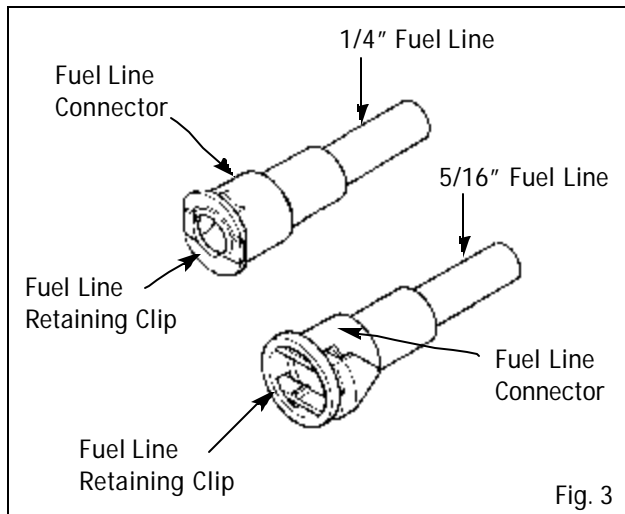

Fig. 3
2. Install the new fuel line retaining clips, 1/4" duckbill style and 5/16" hair pin style, into their respectively sized fuel line connector. With the 1/4" duckbill retainer properly installed, the serrated edges should protrude through the side opening of the fuel line connector. The 5/16" hairpin clip is installed with the triangular portion of the clip facing away from the fuel line connector opening. (See Fig. 3)